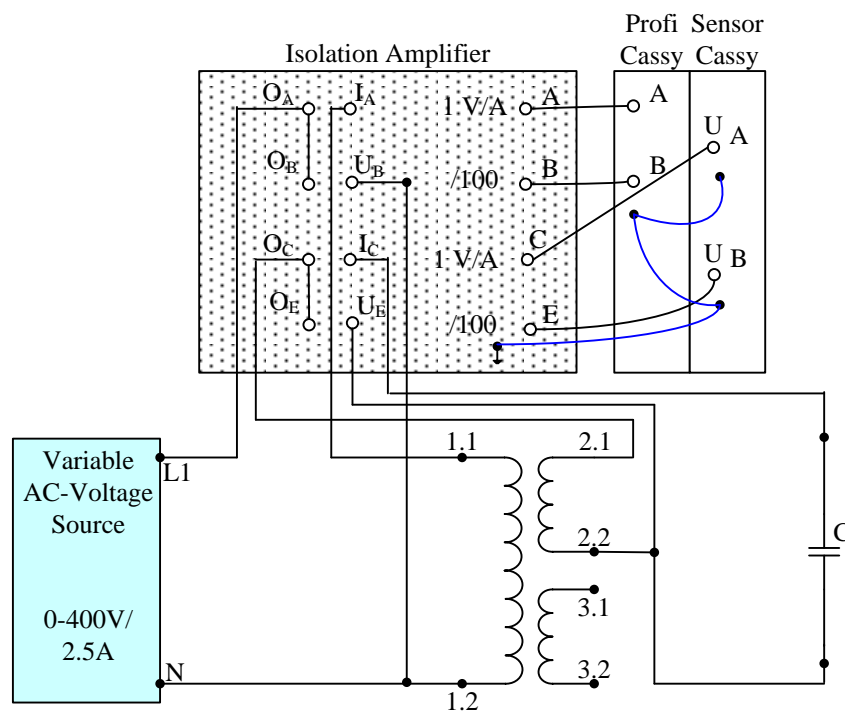

Figure 6 Circuit for investigating voltage behavior with capacitive load
36. Replace the inductive load with a capacitive load as shown in Fig. 6 and then repeat the above measurement series appropriately for values of capacitive load as specified in Table 3. These values of capacitance are to be created by connecting appropriate capacitors together in parallel. Begin the measurements with no-load on the secondary side and maintain a supply voltage of 230V.